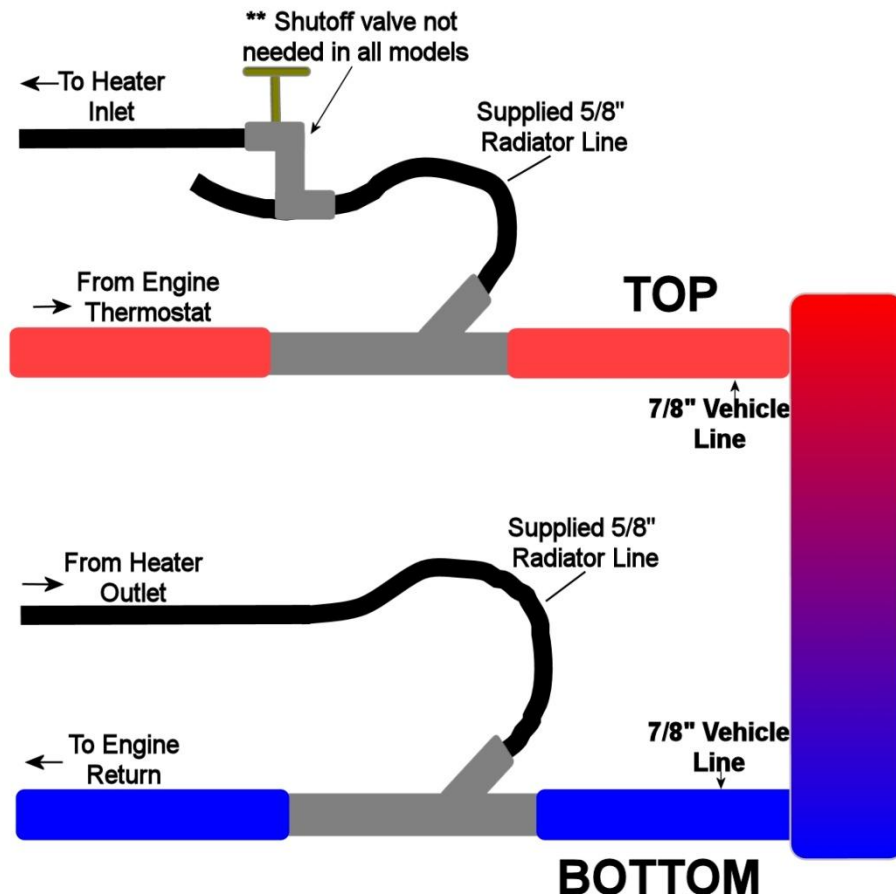

Figure 11
4. Insert the Aluminum Y Connectors into the Radiator Hose exactly as shown in Figure 11.